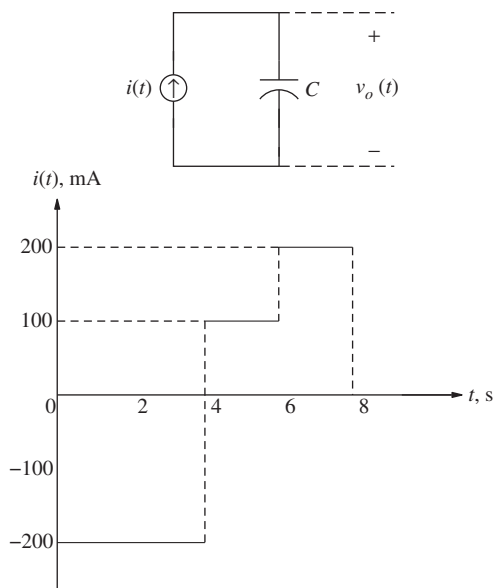

Figure P9.25 Current flowing through a capacitor for problem 9-25.
- 9-25.** The current flowing through a capacitor is given in Fig. P9.25. Knowing that $i(t) = \frac{dq}{dt}$ and that $q(0) = 0.2$ Coulombs, use your knowledge of derivatives and/or integrals to plot the charge $q(t)$.